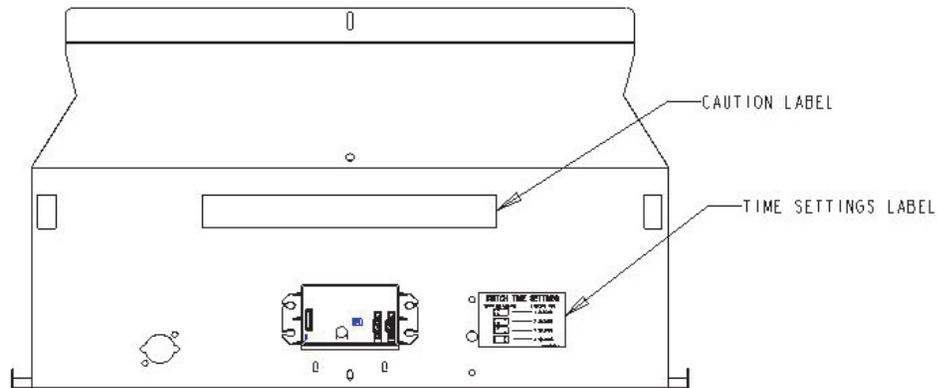

Figure 1. ED175 Layout
6. Locate center of white aluminum electrical box cover and mark center (center for unit is 9 1/4" - See Figure 1). Draw vertical line approximately 1" long, starting from bottom of electrical box cover.
14. Apply 'Switch time settings' label to the right of control board and new caution label (See Figure 1).